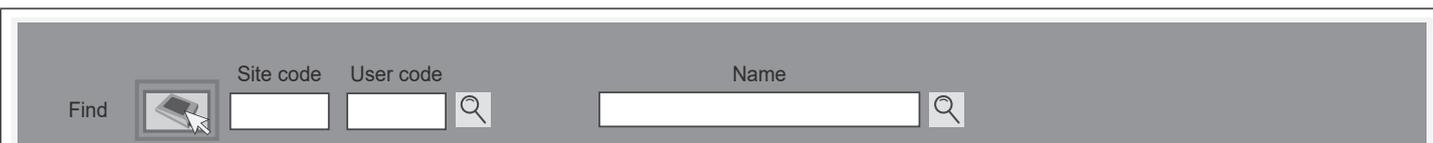

Fig. 64
- First click on the desktop prox icon to the left of the site code field at the top of the prox screen, as shown in Fig.64.